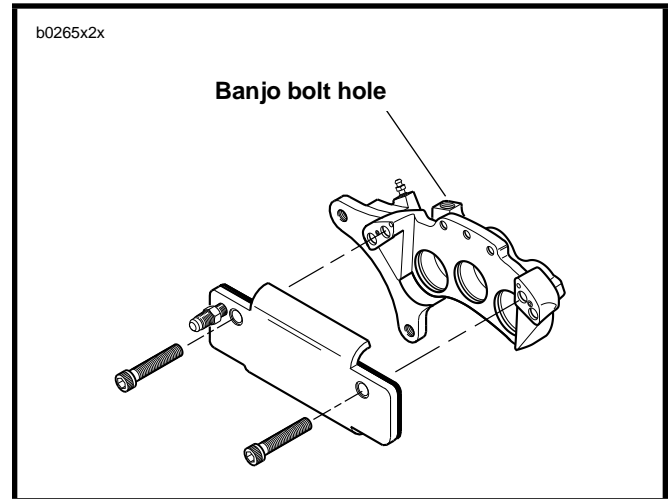

Figure 11. Outside Caliper Half
- a. See Figure 11. Attach outside caliper half using two screws.